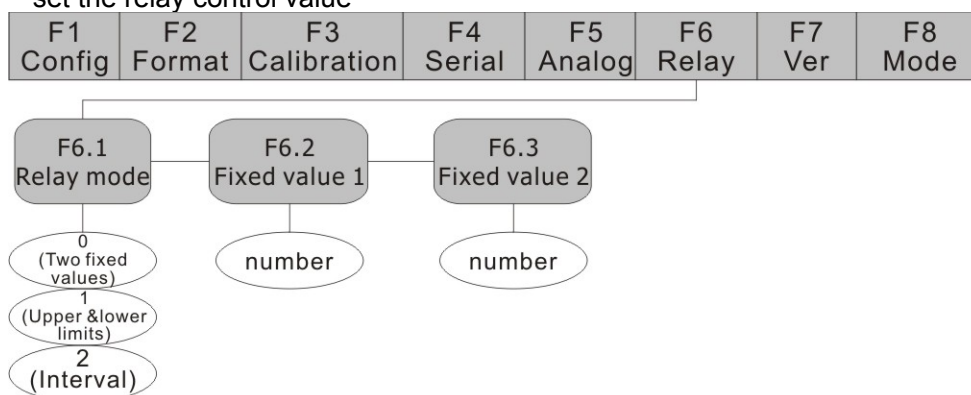
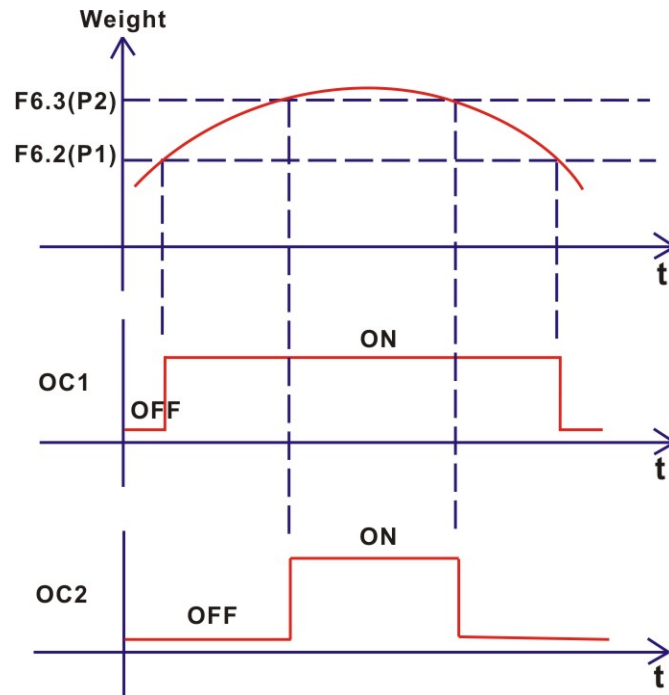

Fig.6-1 Relay Output Menu
Fig.6-2 Relay output-Two fixed values
- (1) Set indicator to the Configuration mode (display shows “F 1”)
- (2) Press **【TARE】** until display shows “F6” (see Fig. 6-1). Press **【ZERO】** to go to the Relay Output Menu. Display shows “F6.1”
- (3) When display shows “F6.1”, press **【ZERO】** again, indicator goes to the relay output menu. Press **【TARE】** to select the mode, the description of different modes is as follows:
- Two fixed values (F6.1=0): If weight value (refer to Note 2) is lower than the value set in F6.2, OC1 (OC is abbreviation for open-collector) is off; if weight value is higher than or equal the value set in F6.2, OC1 is on. If weight value is lower than the value set in F6.3, OC2 is off; otherwise, OC2 is on. See Fig.6-2.